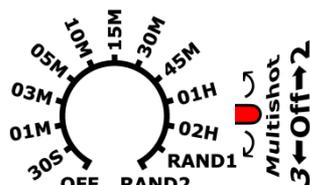

Figure 4 **Figure 5**
7. Set delay timer to desired firing interval (Fig. 4):